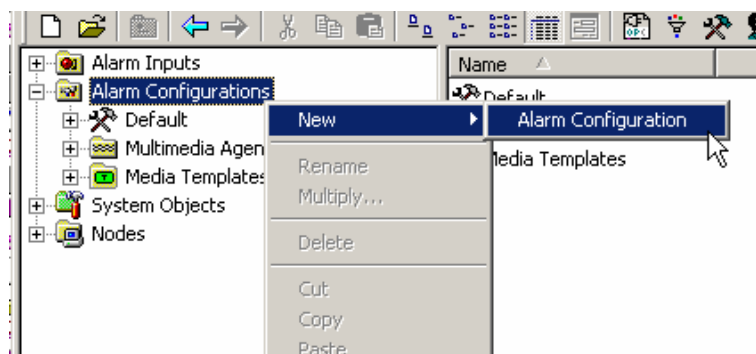

Figure 2.25. Adding a New Alarm Configuration
1. Right-click the **Alarm Configurations** folder and select **New > Alarm Configuration**, as shown in **Figure 2.25**.